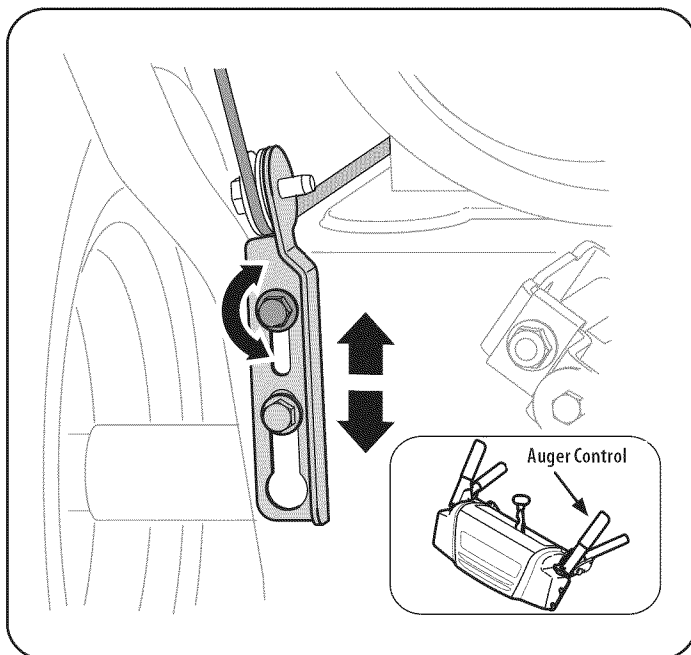

Figure 15
1. The auger control is located on the left handle. See Figure 15 inset. When the auger control is released and in the disengaged “up” position, the cable should have very little slack. It should NOT be tight.
4. Allow the auger to remain engaged for approximately ten (10) seconds before releasing the auger control. Repeat this several times.
6. To readjust the control cable, loosen the upper hex bolt on the auger cable bracket. See Figure 15.